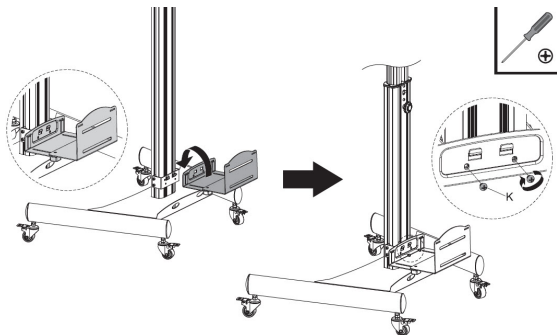

Figure 13
1. Hang the **CPU Holder (D)** onto the **Hooks**, located on the **CPU Holder Bracket** on the **Column (B)**. (Figure 13)
2. Insert two **M6 x 6 mm Screws (K)** through the **CPU Holder (D)** and into the **CPU Holder Bracket** on the **Column (B)** then tighten, using a **Phillips Head Screwdriver**.